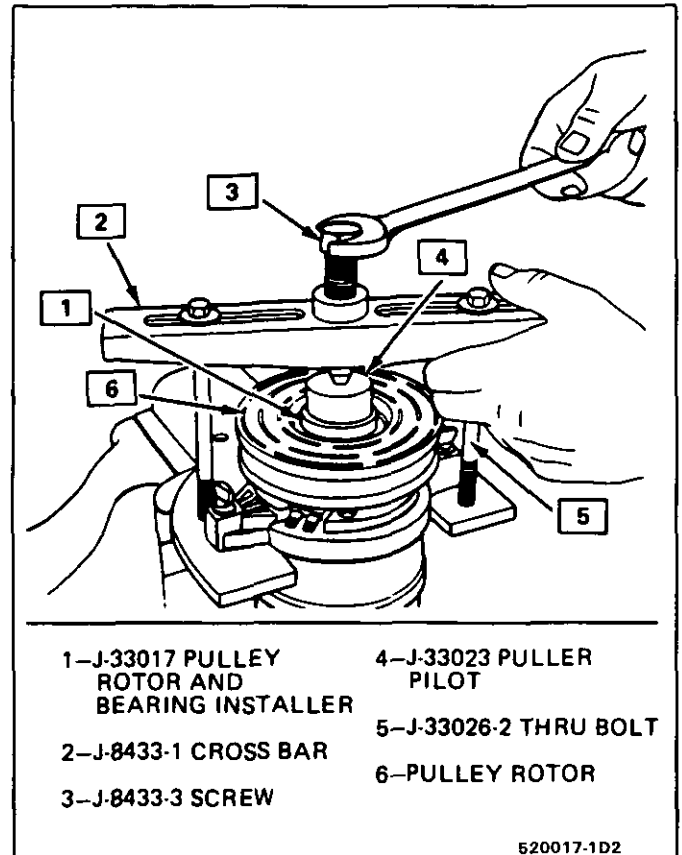

Fig. 17 Installing Pulley Rotor and Bearing Assembly
5. With the compressor mounted to the J-33026 holding fixture, position the rotor and bearing assembly on the front head (Fig. 17).
6. Position the J-33017 pulley rotor and bearing installer and J-33023 puller pilot directly over the inner race of the bearing (Fig. 17).
7. Position puller crossbar J-8433-1 on the puller pilot J-33023 and assemble the two J-33026-2 through bolts and washers through the puller bar slots and thread them into the J-33026 holding fixture (Fig. 17). The thread of the through bolts should engage the full thickness of the holding fixture.
8. Tighten the center screw in the J-8433-1 puller crossbar to force the pulley rotor and bearing assembly onto the compressor front head (Fig. 17). Should the J-33017 pulley rotor and bearing installer slip off direct in-line contact with the